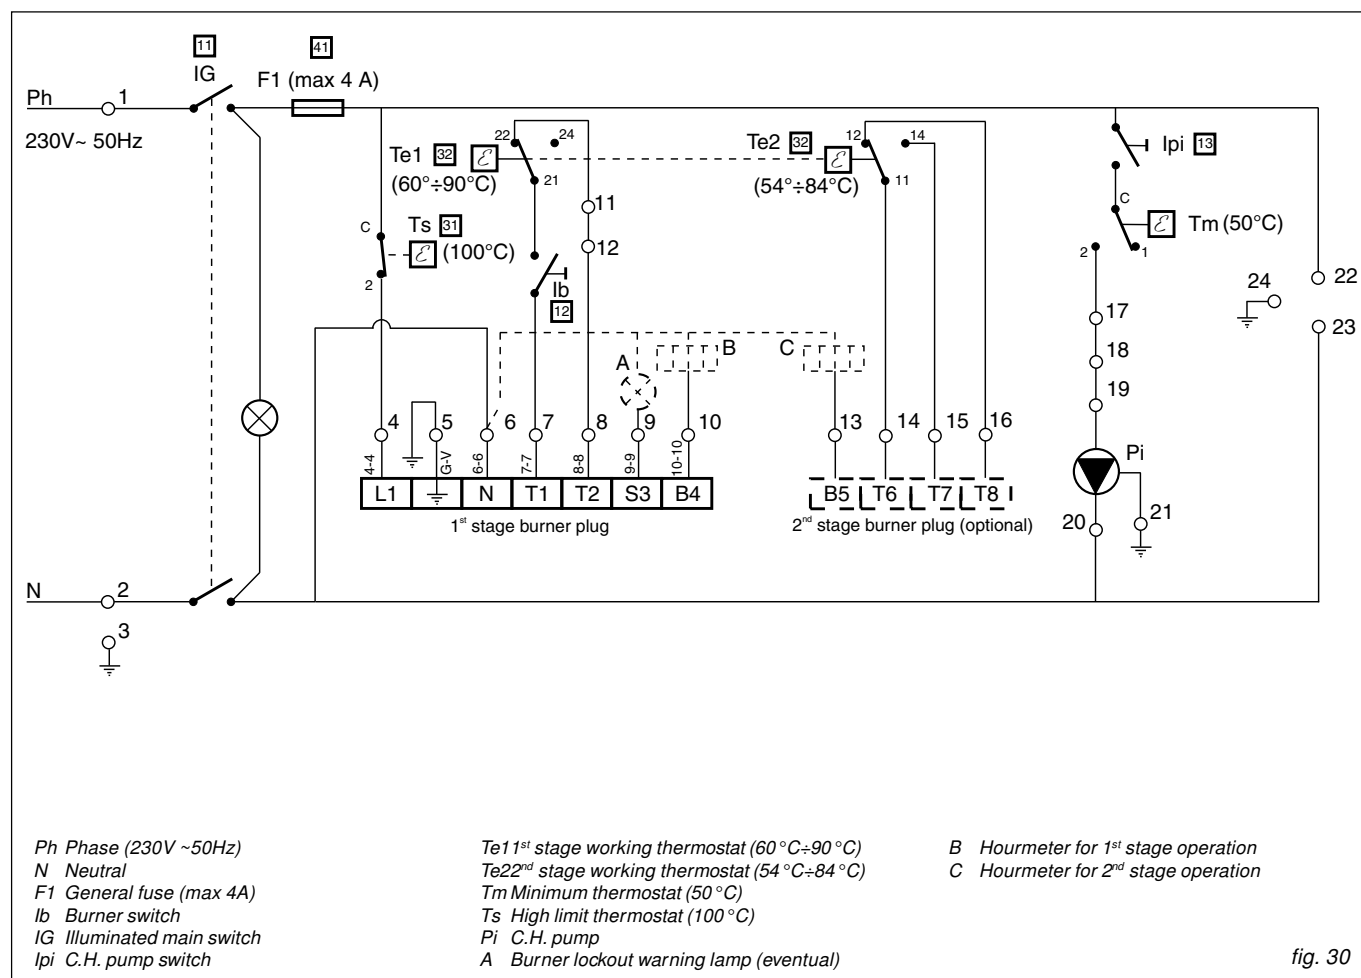

fig. 30
The panel board Standard or with outer compensator) is equipped with a burner cable, a PG 11 gland (pos. 2) and a 7 pole plug (pos. 3) - See wiring diagrams on figs. 30 and 31.
When fitting the panel board the leads of the burner cable, which has to be passed through the cable gland, must be connected to the panel board terminal strip (see wiring diagrams on figs. 30 & 32).